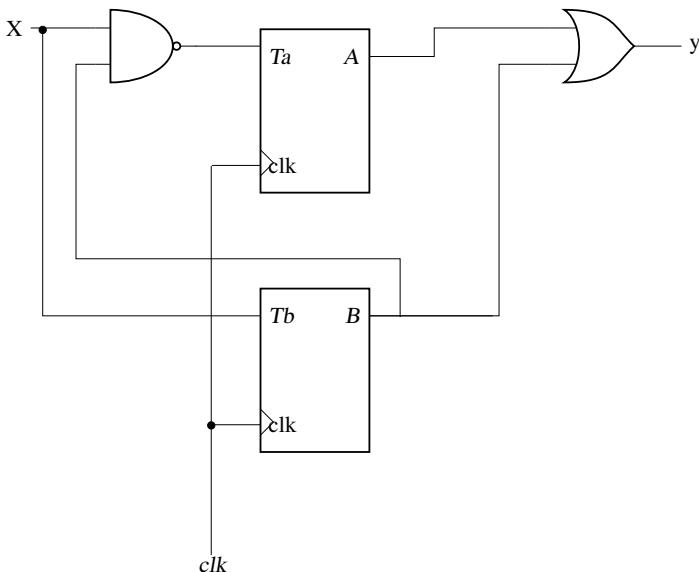

Fig. 5.21
21. Two T-flip flops are interconnected as shown in Fig. 5.21. The present state of the flip flops are: A = 1, B = 1. The input x is given as 1, 0, 1 in the next three clock cycles. The decimal equivalent of  $(ABy)_2$  with A being the MSB and y being the LSB, after the 3rd clock cycle is \_\_\_\_\_. (GATE IN2020 – 40)